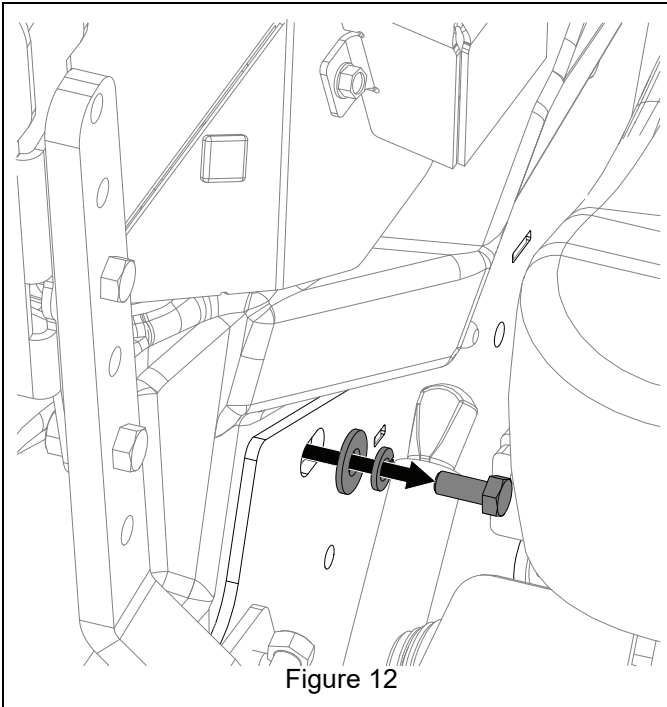

Figure 12
3. Secure both harnesses with two 8 1/2" cable ties (item 20)
4. Remove and retain 5/16" x 3/4" hex bolt, flat washer and lock washer from lower fuel tank. See Figure 12.